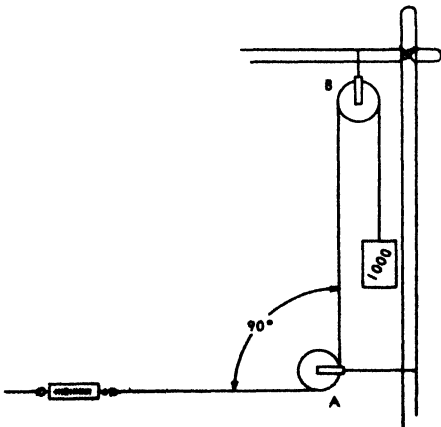

FIG. 209. FORCES AT 90° ANGLE
b) Arrange two single pulleys for lifting a weight as shown in Fig. 209. Determine how much force will be needed to lift a 1000 g. weight when pulling horizontally on the spring balance. Make a drawing, to scale, showing the size and direction of the force exerted by the pulley A.